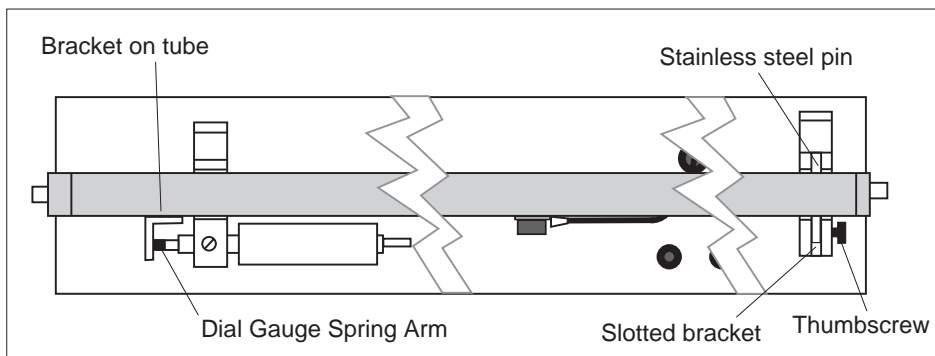

Figure 2 Equipment Setup (Top View)
- ② Mount the copper tube in the expansion base as shown in Figure 2. The stainless steel pin on the tube fits into the slot on the slotted mounting block and the bracket on the tube presses against the spring arm of the dial gauge.
- ③ Use one of the provided thumbscrews to attach the thermistor lug to the threaded hole in the middle of the copper tube. The lug should be aligned with the axis of the tube, as shown in Figure 2, so there is maximum contact